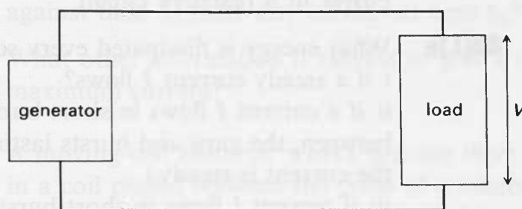

Figure H99
- 48(L) Figure H99 shows a very simplified representation of a transmission line delivering power P from a generator to a load. The potential difference across the load is V . The total resistance of the cables between generator and load is R .